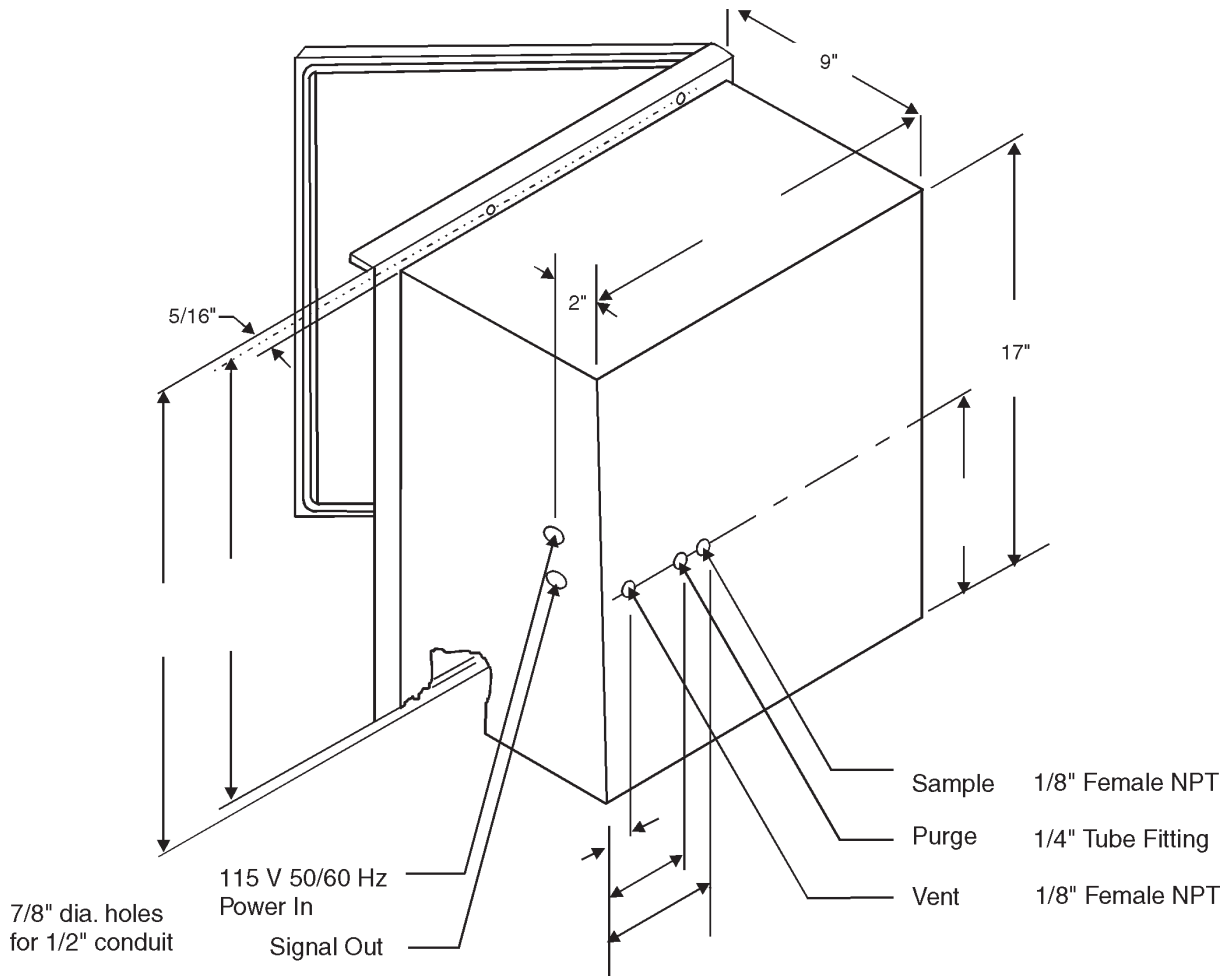

Figure 5: Gas Connections to Back of Analyzer
The sample line is connected at the back of the analyzer case as depicted in Figure 5. Use care in assembling any part of the sampling system to avoid leaks. Oxygen can diffuse into the system through small leaks even when sample pressure is much greater than atmospheric pressure.
3. **Vent.** The analyzed sample is vented through the back of the unit as shown in Figure 5.